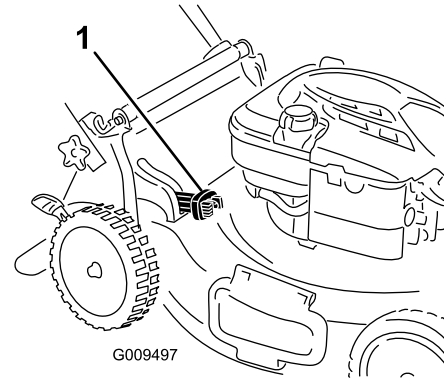

Figure 22
- For bagging the grass and leaf clippings, press the button on the bag-on-demand lever, and move the lever forward until the button on the lever pops up (Figure 22).